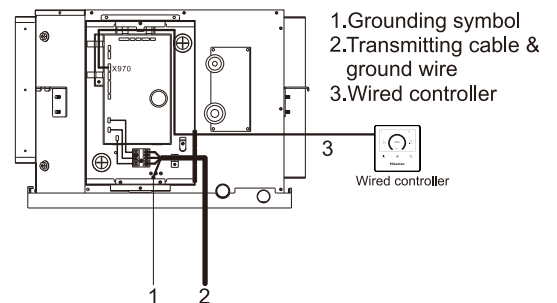

Fig.8.2
- (2) Connect the transmitting cable and ground wire to the main terminal.(Fig.8.2)
- (3) Connect the wired controller wire to X970 .(Fig8.2)